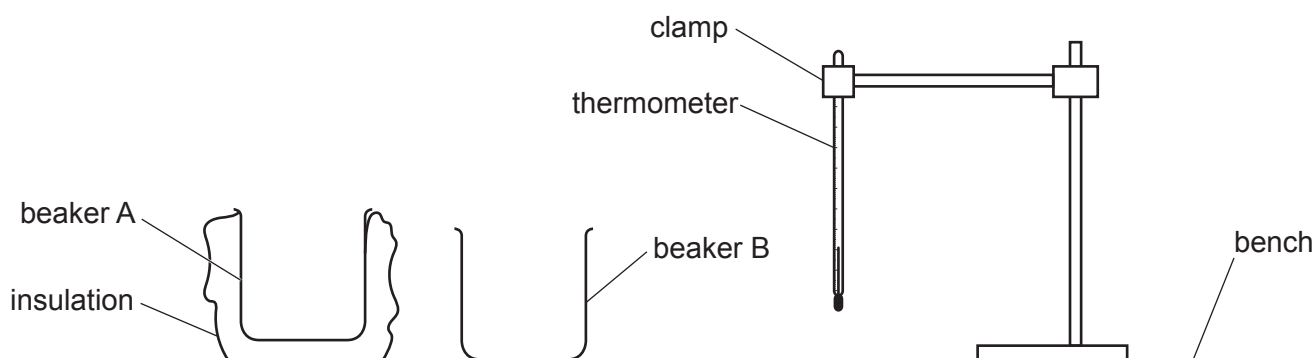

Fig. 2.1
1. The thermometer, clamp, boss and stand are to be set up for candidates as shown in Fig. 2.1. The thermometer bulb must be below the 150 cm^3 level of beaker B. Candidates must be able easily and safely to read temperatures up to 100°C and to move the thermometer into and out of the beakers.
2. The sides and base of beaker A must be covered with a thick layer of insulating material as indicated in Fig. 2.1. Cotton wool is suitable.
Check that the apparatus is intact and is arranged as in Fig. 2.1.